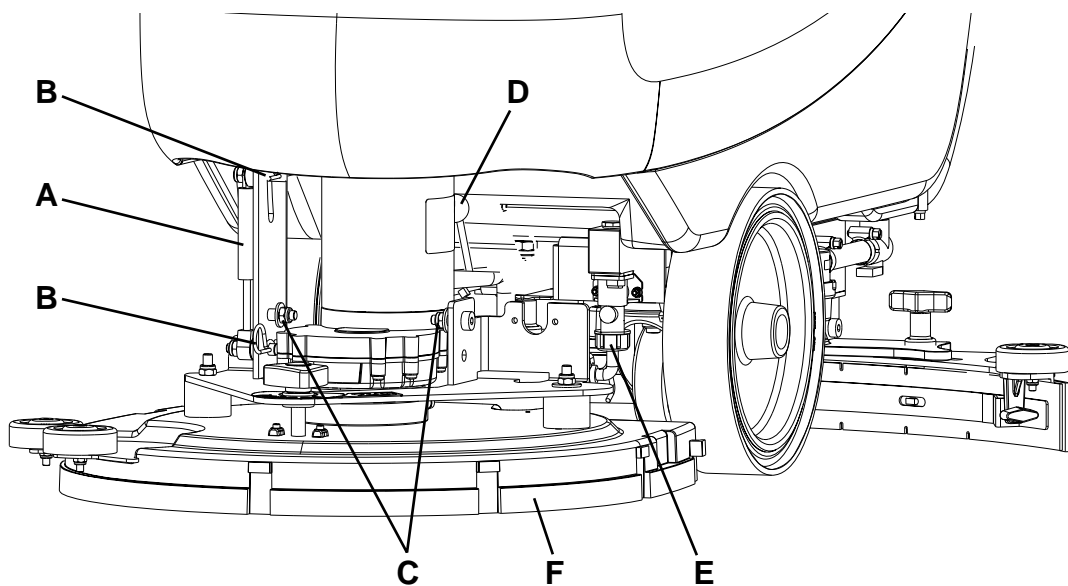

Figure 11
3. Lower the brush/pad-holder deck by pressing the pedal (11).
4. If equipped, remove the cotter pins (B, Fig. 11) and the gas spring (A).
5. Disconnect the brush/pad-holder motor electrical connection (D).
6. Disconnect the solution hose union (E).
7. Remove the screws (C), then remove the brush/pad-holder deck (F).